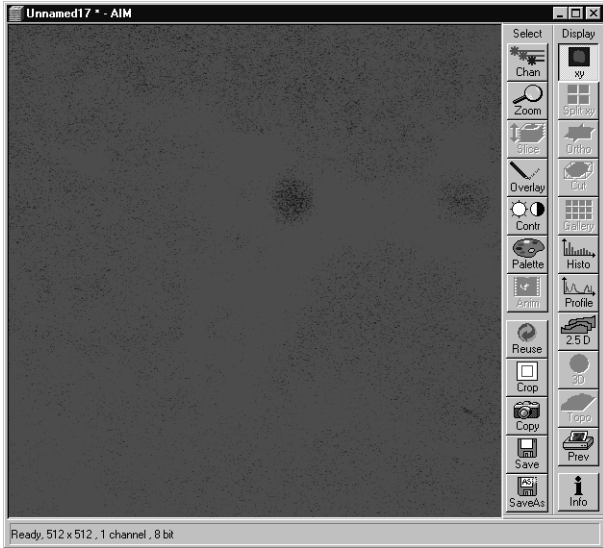

Fig. 5-406 LSM image after bleaching in the Method Optimization
- Once the scan is finished you see a bleached spot corresponding to the position of the rigid laser beam (see Fig. 5-406).